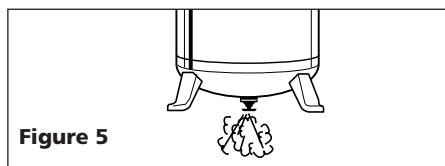

Figure 5
2. With compressor shut off and pressure released: Drain moisture from tank by opening drain cock underneath tank (See Figure 5).